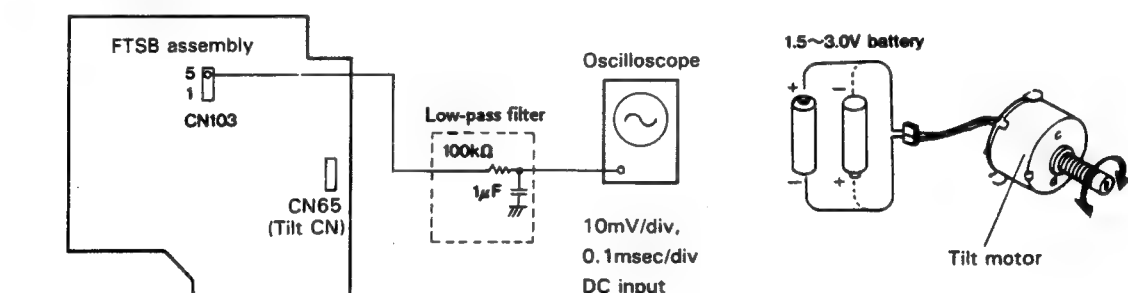

Fig.19
5. If the focus drive voltage measured when searching for frame #17,222 differs from that obtained in step 4 above, connect a battery (1.5 to 3V) to the tilt motor connector, and turn the motor until the focus drive voltage is within  $\pm 50\text{mV}$  of the step 4 voltage. (Fig.19)